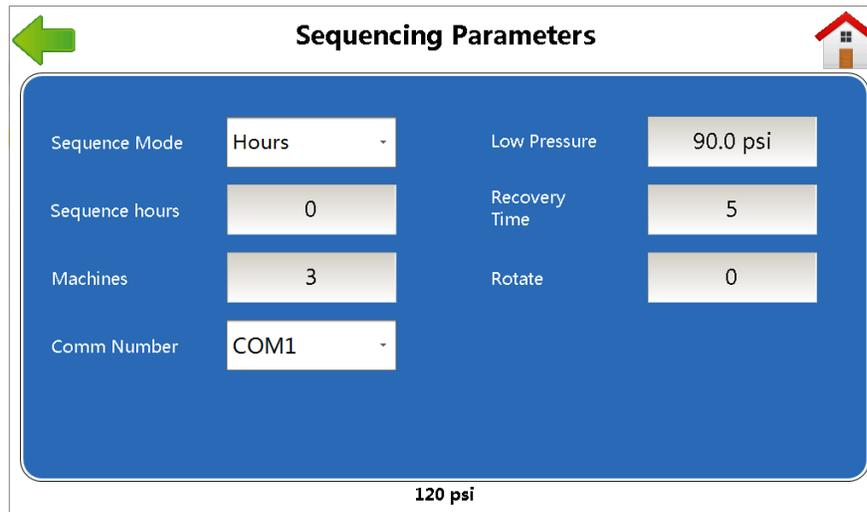

Figure 3-1: STS controller Sequencing Parameters screen
3. Change parameter values (see *Figure 3-1*).